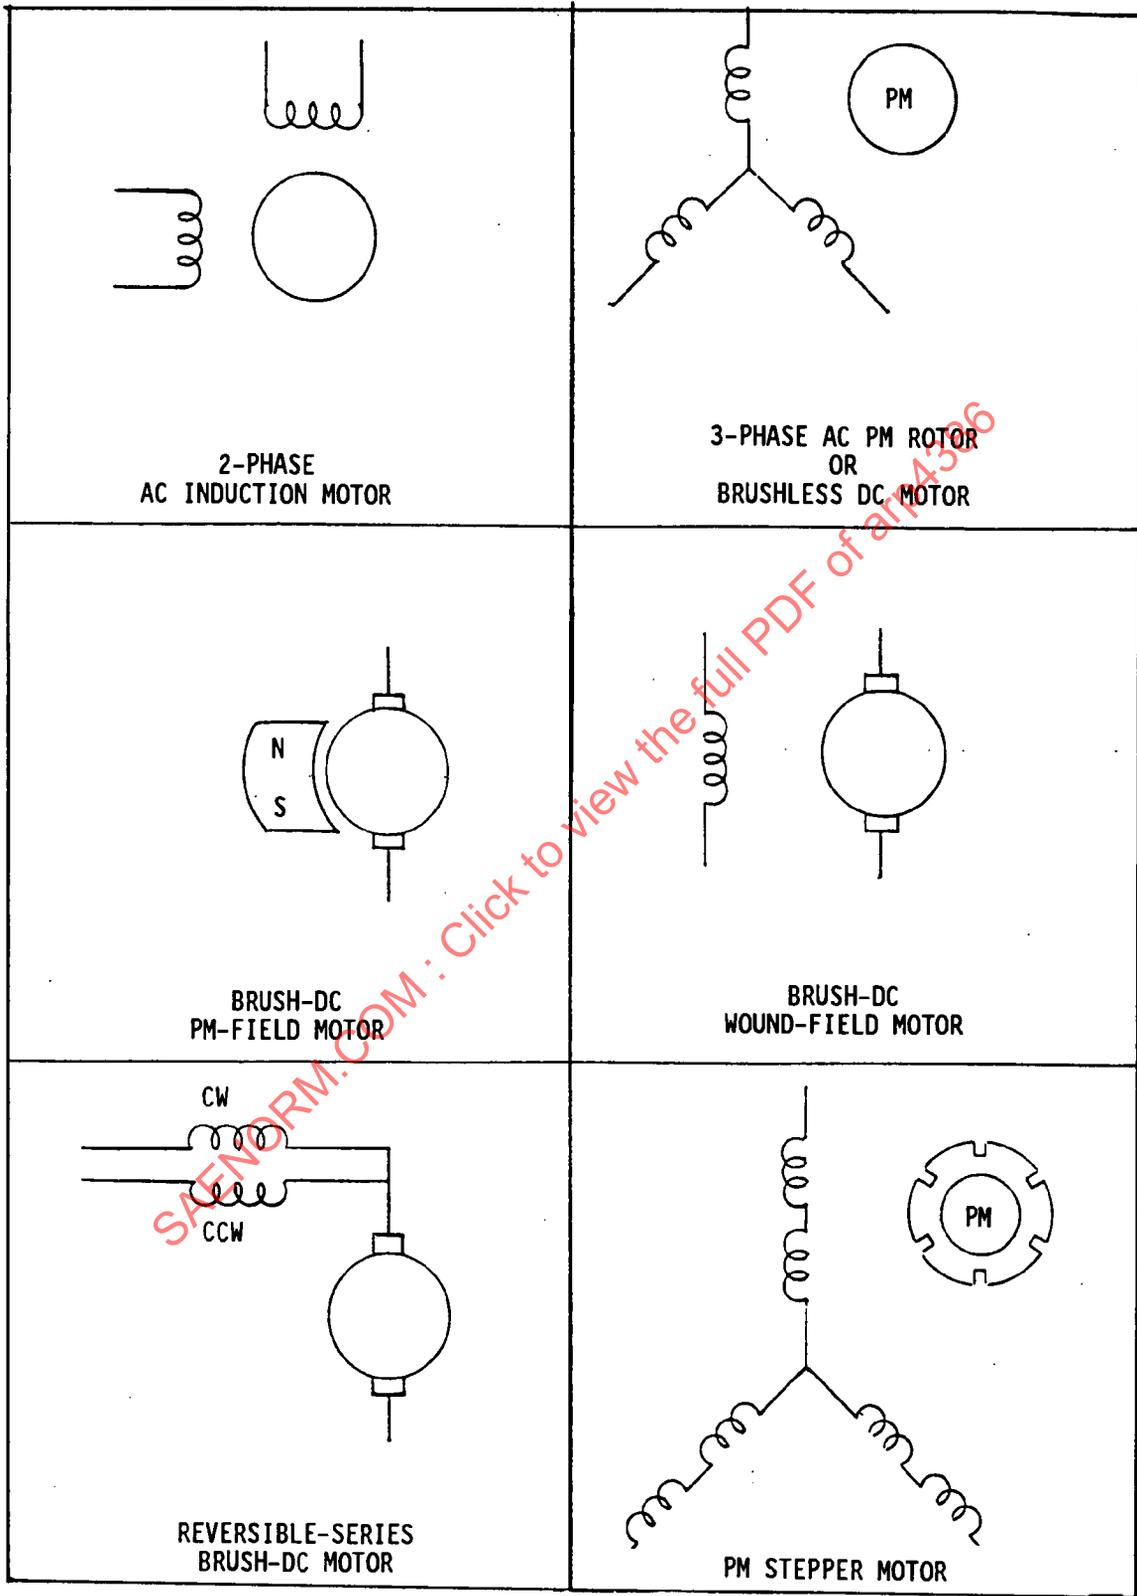

FIGURE 7 - Electromechanical Actuator Motors
**3.2.2.3 Electromechanical Actuators:** These definitions apply to electric motors used as torque generators in an electromechanical actuator. See Figure 7. Other electric motor definitions are covered under 3.1.2.3.